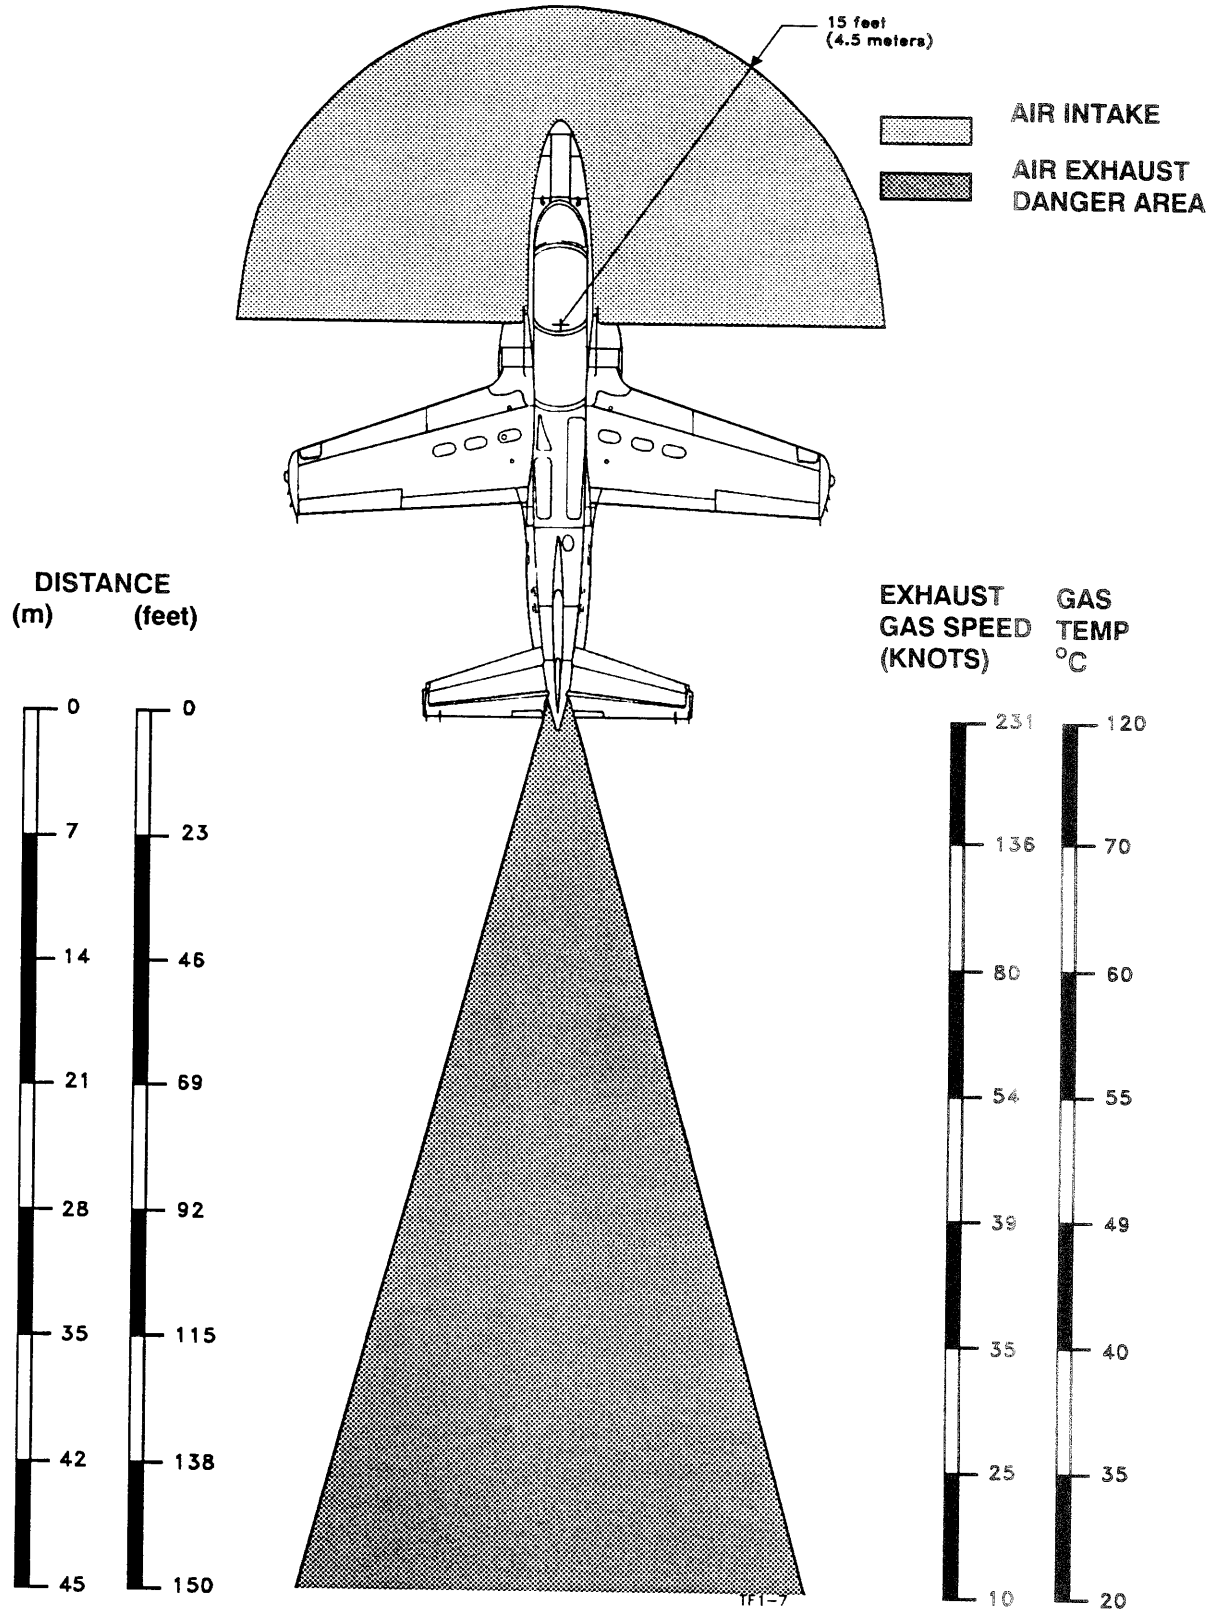

Figure 2-2.
2. Refer to figure 2-2, Danger Areas, for the extent of the engine intake and exhaust hazard areas.